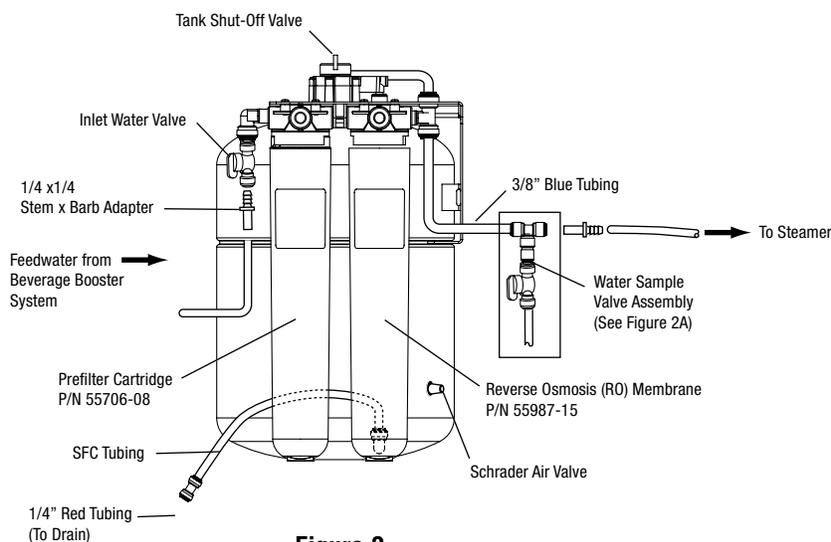

Figure 2
CAUTION: The FlashGard-HP Reverse Osmosis Water Filtration System requires a minimum 60 psi (413.7 kPa) inlet water pressure. To ensure adequate inlet water pressure, it is recommended that the system be plumbed after the beverage booster pump but before the beverage water filtration system. Refer to Figure 2 for proper tubing connections.
- 4) Cut a piece of the 3/8" blue tubing (included). Connect one end to the outlet tee on the RO system and the other end to one side of the Water Sample Valve Assembly (See Figure 2).
- 5) Run length of tubing from the other end of the Water Sample Valve Assembly to the inlet of the steamer. See Figure 2.
1) Close tank shut-off and inlet valves (see Figure 2).
8) Open tank shut-off and inlet valves (see Figure 2).
- 9) Open tank shut-off and inlet valves (see Figure 2)